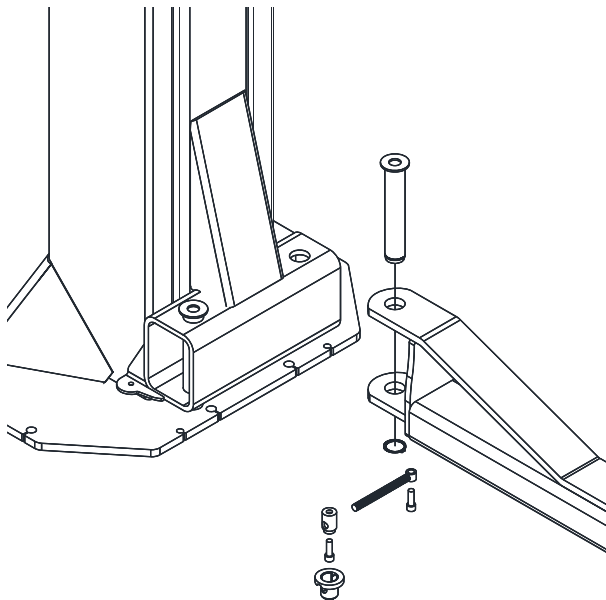

Fig. 18-Arm Installation
- 36) Lubricate the arm pin or carriage arm pin hole with "anti-seize" and install the arms. Insure that the arm restraint gears engage and disengage properly. Arm restraints should disengage when lift is fully lowered (**Fig 18**).